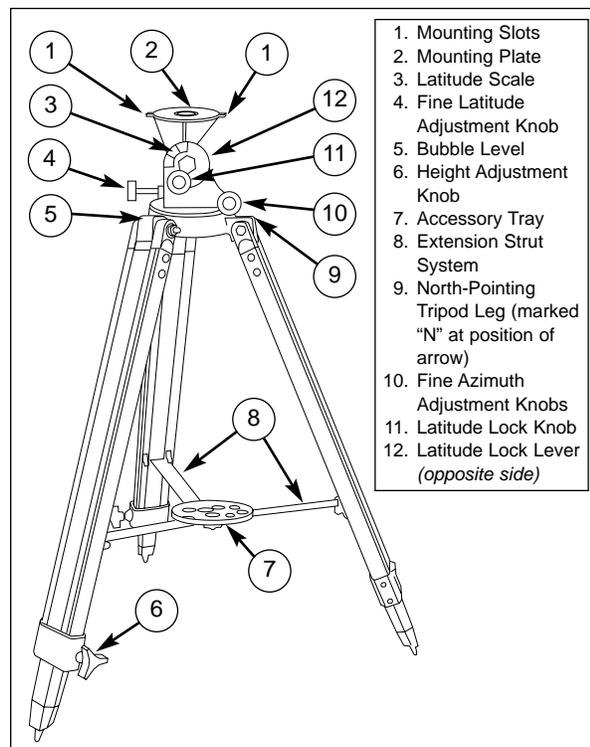

Fig. 1: #883 Deluxe Field Tripod.
The #883 Deluxe Field Tripod (Fig. 1) is simple to set up and easy to use. Users need only attach the accessory tray and adjust the tripod to the desired observing height.
Remove the round accessory tray (7, Fig. 1) from the packing box. Remove the black, star-shaped lock knob from the threaded rod on the bottom of the accessory tray. Attach the tray to the tripod by inserting the threaded rod through the central hub of the extension strut (8, Fig. 1). Rethread the lock knob onto the accessory tray.
Loosen the black, star-shaped height adjustment knob (6, Fig. 1) at the base of each tripod leg. Slide the three inner tripod leg sections to the desired height. Tighten the three height adjustment knobs to a "firm feel." Do not overtighten.
NOTE: The tripod legs do not all have to be extended to exactly the same length. Vary the height of one or more tripod legs as required to achieve an approximately level mounting surface for the telescope, as shown by the bubble level (5, Fig. 1).
Remove the accessory tray (7, Fig. 1) from the tripod. Grasp the top of the tripod with one hand, and with the other hand, pull up on the central hub of the extension strut (8, Fig. 1) where the accessory tray was attached. This action will cause the tripod legs to move inward to a collapsed position.
1. Confirm that the latitude lock lever (12, Fig. 1) is in the locked position by rotating the lever clockwise until tight. If using the ETX-90RA model, confirm that the N/S switch on the bottom of the drive base of the telescope is set for the correct hemisphere prior to mounting.
4. Place the telescope base on the tripod mounting plate (2, Fig. 1), aligning the knob inserted in step 3 with the mounting slot (1, Fig. 1) located directly above the "N" tripod leg (8, Fig. 1). Slide the knob into the slot, then position the telescope base so that the second field tripod mounting hole lines up with the second mounting slot.
In Alt/Az viewing applications, the three legs of the #883 Deluxe Field Tripod may be positioned in an arbitrary orientation. The telescope mounting, however, should be placed in a horizontal position by turning the fine latitude adjustment knob (4, Fig. 1) until the latitude scale (3, Fig. 1) reads 90°, unlocking and re-locking the latitude lock knob (11, Fig. 1) to accomplish this adjustment.
Make sure the telescope is firmly attached to the tripod, as described above, with the latitude lock knob (11, Fig 1) and the latitude lock lever (12, Fig. 1) firmly locked.
1. On top of one of the tripod legs, locate the letter "N" (9, Fig. 1). This represents the north leg of the tripod. Pick up the entire telescope-and-tripod and place the tripod so that the leg marked "N" points due north. For observers in the southern hemisphere (e.g., Australia, South America, Africa, etc.), the leg marked "N" should point due south.
2. Determine the latitude of your observing location from a road map, atlas, or refer to the telescope instruction manual. To set the latitude of the tripod to your observing location, loosen the latitude lock knob (11, Fig. 1). Turn the fine latitude adjustment knob (4, Fig. 1) *clockwise* or *counterclockwise* until the latitude pointer indicates the correct latitude on the latitude scale (3, Fig. 1).
It may be necessary to loosen the lock nut on the fine latitude adjustment knob (4, Fig. 1) to allow enough movement of the mount to achieve the latitude of your location. Once the desired latitude has been set, tighten the lock nut until it is flush against the mount. Tighten the latitude lock knob (11, Fig. 1) as well.
NOTE: The fine azimuth adjustment knobs (9, Fig. 1), which move the telescope horizontally without moving the tripod itself, may be used to aid in the alignment procedure.